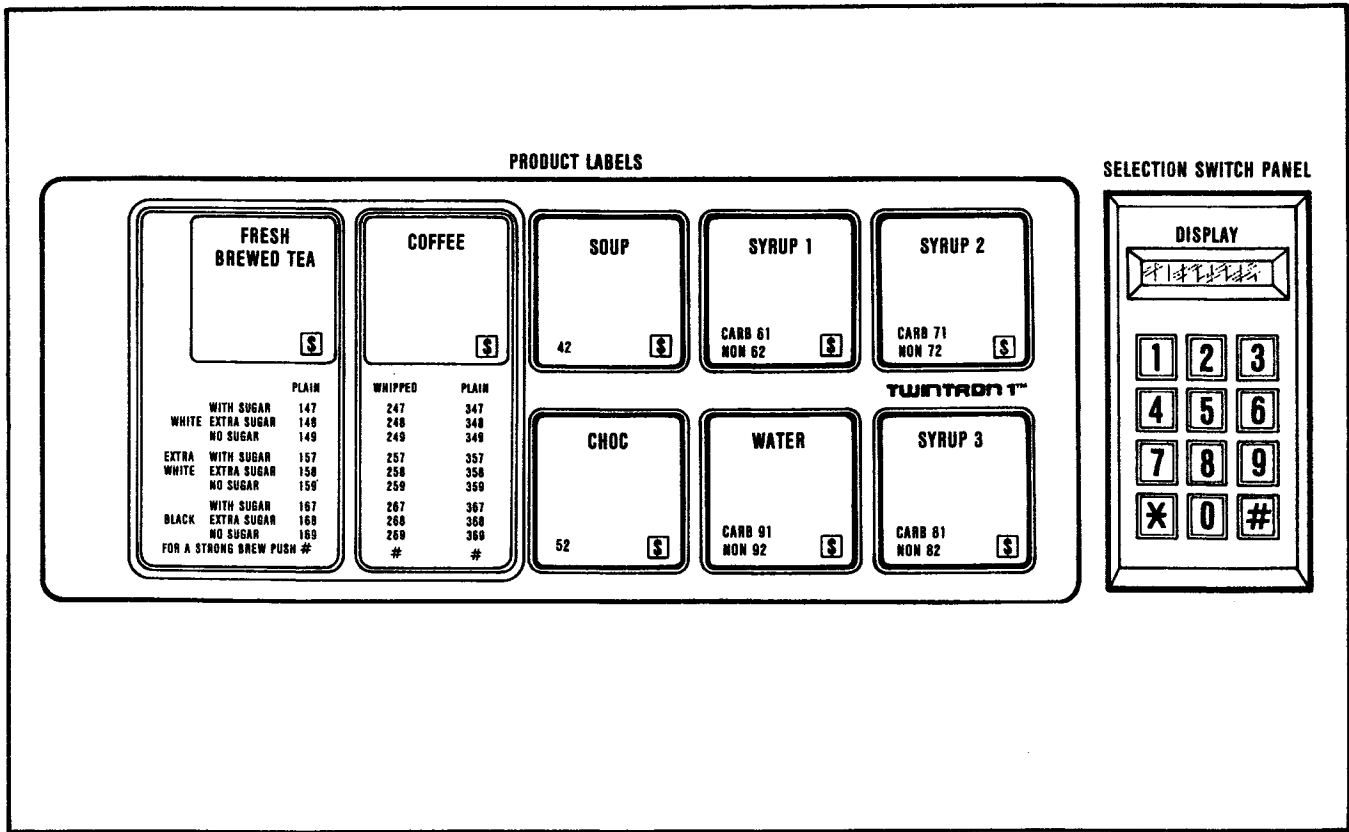

Figure 2-1. Typical Selection Labels and Selection Switch Panel
The Twintron I Hot and Cold Beverage Merchandiser has a microprocessor for product adjustments and selections. See Figure 2-1.
- A. Remove a Syrup Tank Lid and carefully fill the tank with syrup of the desired flavor. Do not fill the tank above a point one inch below the tank brim. Match the syrup flavor in each tank with the desired code shown on each selection label. See Figure 2-1 and Table 2-3 for typical canister labels and codes.